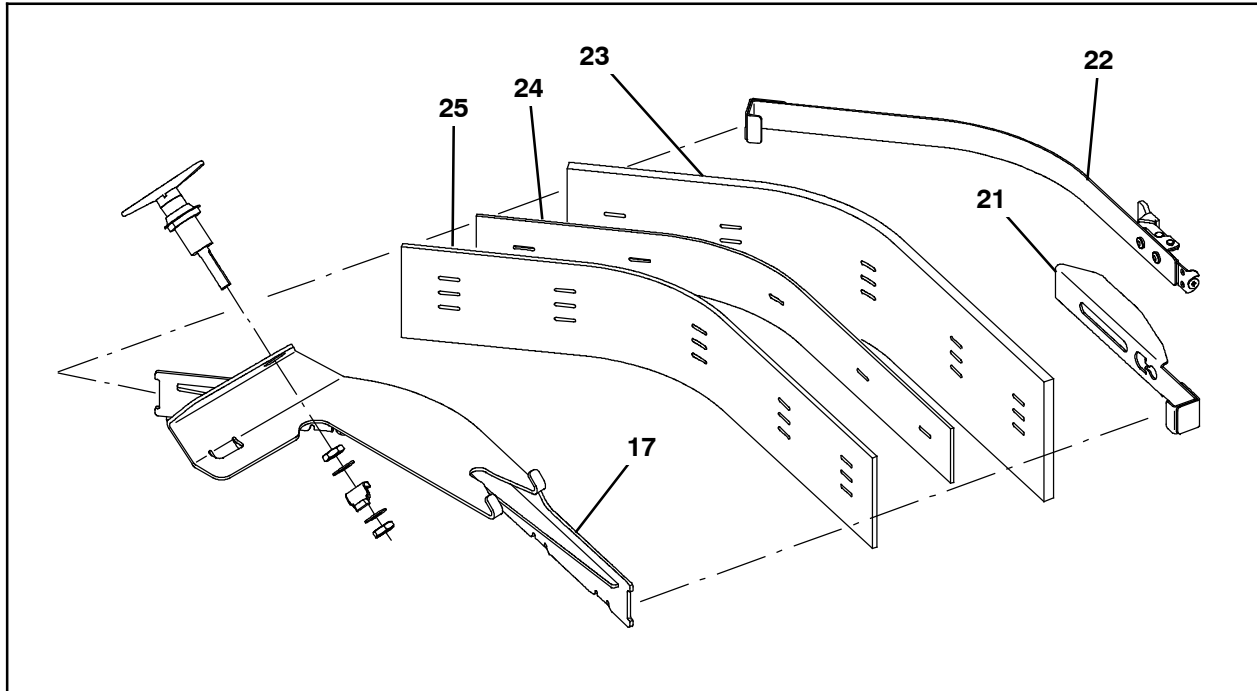

FIG. 29
assembly. (Fig. 29)
61. Install the squeegee assembly onto the side brush assembly. Refer to Operator Manual for instructions how to install the side brush squeegee assembly. (Fig. 29)